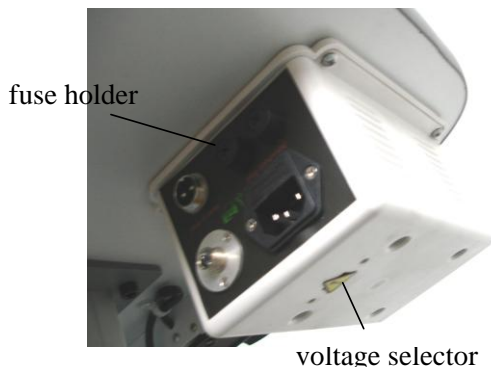

Fig.3
- ♦ Check the setting on the voltage selector located on the bottom of the power box (Fig.3).If it don't match with the input voltage, slide it to the proper position .